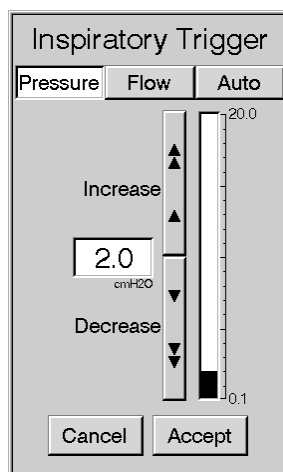
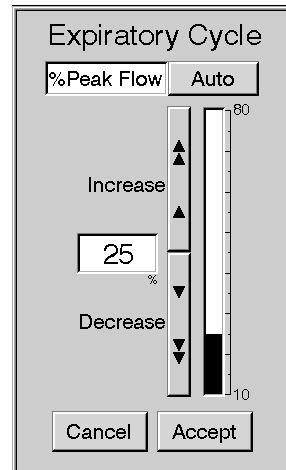

Figure 13-71: Sample Inspiratory Trigger Window with Auto-Trak Option Available (Pressure is not an available option for NPPV)
Figure 13-72: Sample Expiratory Cycle Window with Auto-Trak Option Available.
2. When the I-Trigger or E-Cycle window appears, touch the Auto button (Figure 13-71 and Figure 13-72).